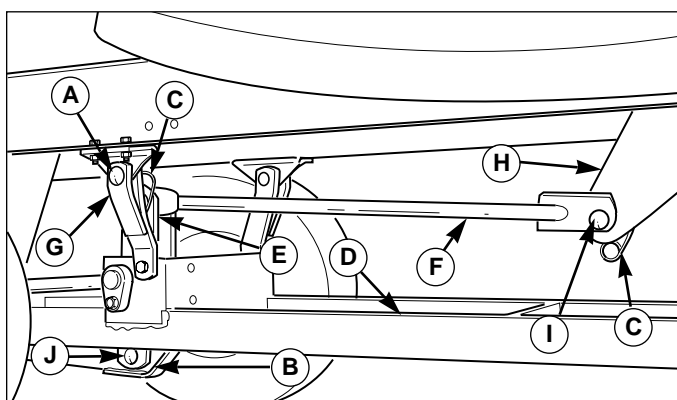

Figure 14. Lift Rod
3. Attach the front end of the ladder hitch (D, Figure 14) to the front hitch brackets using two 1/2 x 1-1/2" round head clevis pins (A) and safety clips (C).
1. If not already done, attach the lift rod (F, Figure 14) to the hitch lift arm (E) using a 1/2 x 2" flat head clevis pin and safety clip.
2. Attach the lift rod (F, Figure 14) to the attachment lift extension (H) using a 5/8 x 1-5/8" flat head clevis pin (I) and safety clip (C).